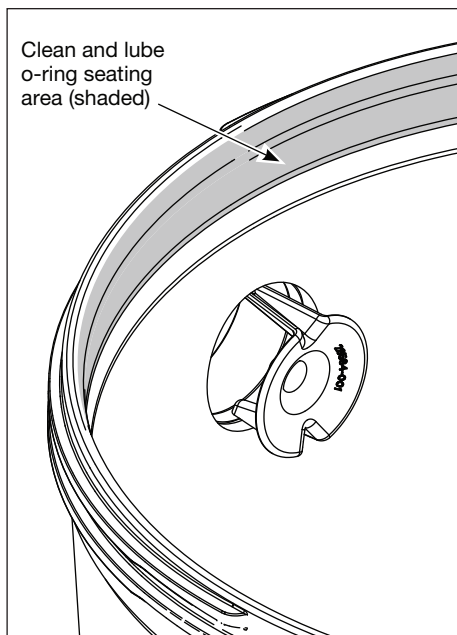

Figure 6 - O-ring seating area
3. Clean the O-ring seating area on the inside of the base (Figure 6). Lightly lubricate with silicone based grease.